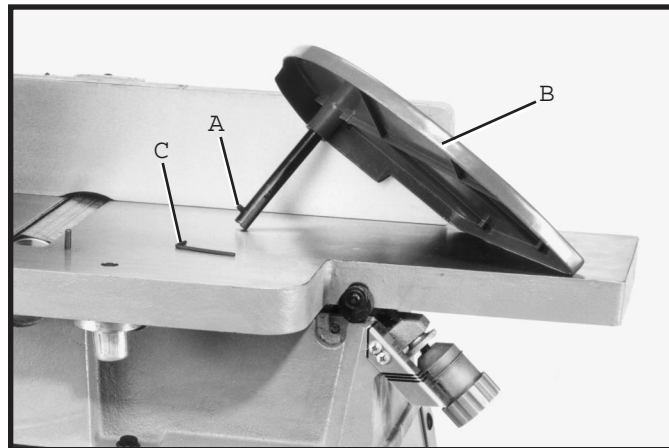

Fig. 17
1. Remove set screw (A) Fig. 17, from the post of the cutterhead guard (B) with supplied wrench (C).